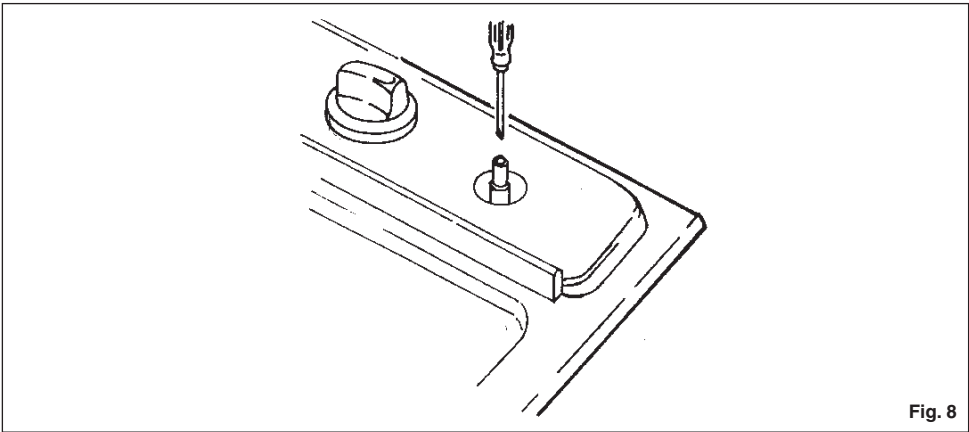

Fig. 8
- to adjust to the minimum, use a screwdriver on the screw placed on the tap (Fig. 8) after turning the tap to its minimum position.